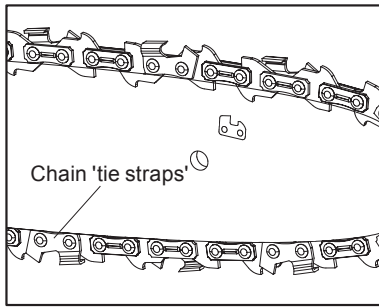

Fig. 6
1. Place the product on a suitable flat surface with the chain saw cover (15) facing towards you.
2. Check the chain tension using one hand to lift the saw chain (12) against the weight of the product. The correct chain tension is achieved when the saw chain can be lifted by approximately 2 - 4 mm from the guide bar (13) in the centre (Fig. 6, 7).